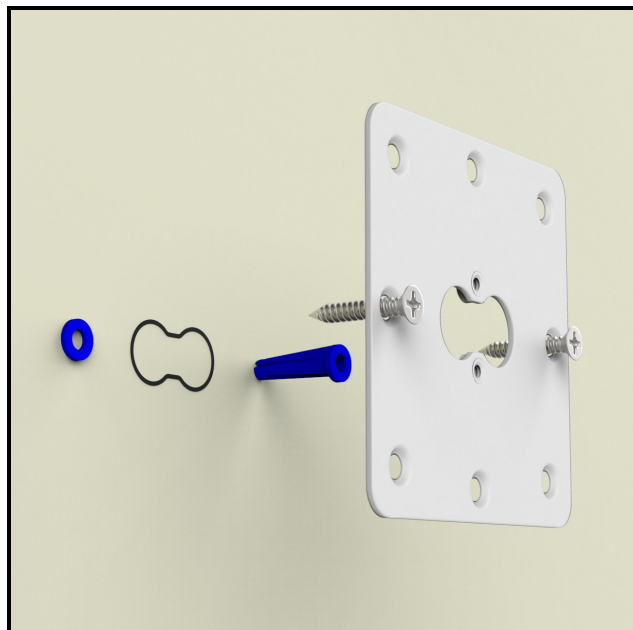

Figure 7
- Using a pencil, mark the shape of the cutout on the opposite end of the template (Figure 7).